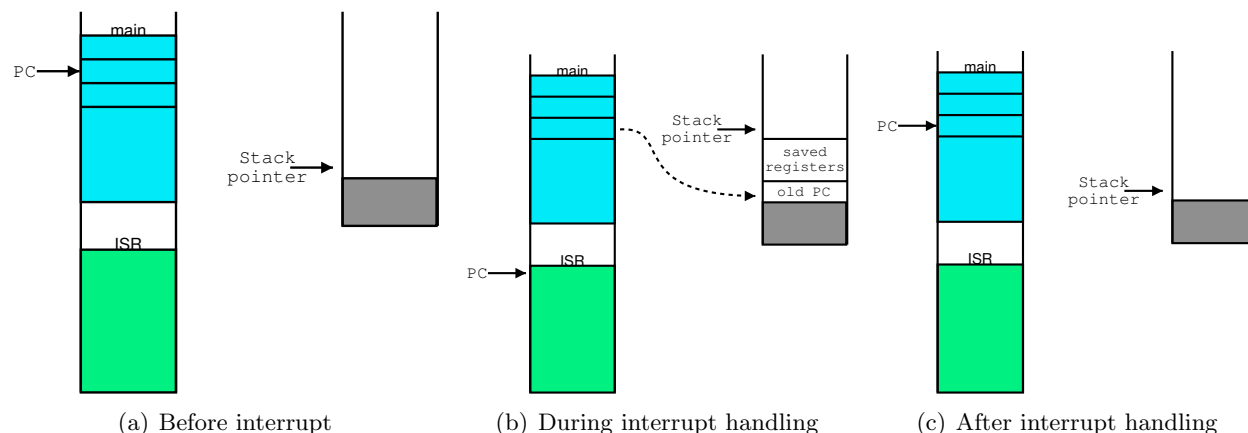

Figure 10: Main memory and stack when an interrupt occurs
Interrupts are a way of signaling the CPU in an asynchronous fashion that servicing is required. When an interrupt occurs the CPU finishes execution of its current instruction, saves any needed registers and the program counter (PC) on the stack and transfers execution to the Interrupt Service Routine (ISR). The CPU then executes the ISR and when finished, restores the PC and continues execution of the main program. This sequence is shown in Figure 10. The CPU is only interrupted when a service request is received, so no waiting is takes place and useful work can be done between interrupts. Interrupts can be *vectored* which means that each interrupt has a unique interrupt vector, and therefore a separate ISR. With vectored interrupts, the CPU will automatically execute the appropriate ISR when an interrupt occurs and there is no need to determine which device generated the service request. PC's have a standard interrupt vector structure. An interrupt subroutine may be "installed" by changing the instruction at the appropriate vector. The PIC16F877 does not